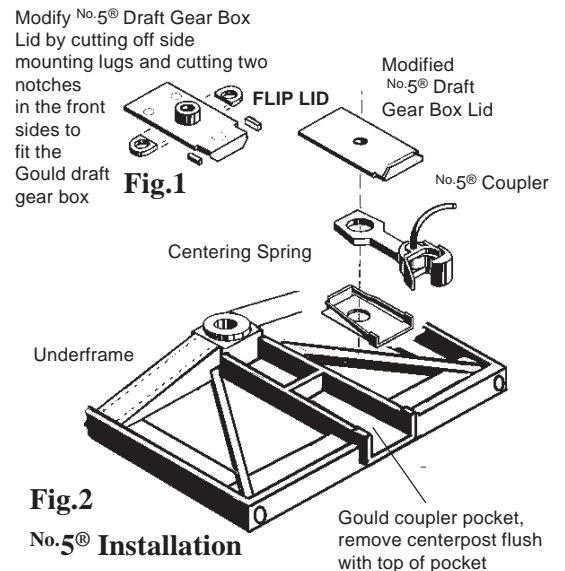

Fig.2
3. To assemble the No.5® Coupler, first mount Centering Spring to top of Gould coupler pocket. Use the No.5® Lid as a guide to locate spring position in Gould pocket, note or mark location and glue Centering Spring in position to top of Gould coupler pocket with a tiny droplet of CA glue. Insert No.5® Coupler and place modified No.5® Lid over Gould box while slipping centerpost into coupler and aligning coupler to spring. Glue lid in place with plastic compatible cement applied sparingly along seams only. See Fig. 2.